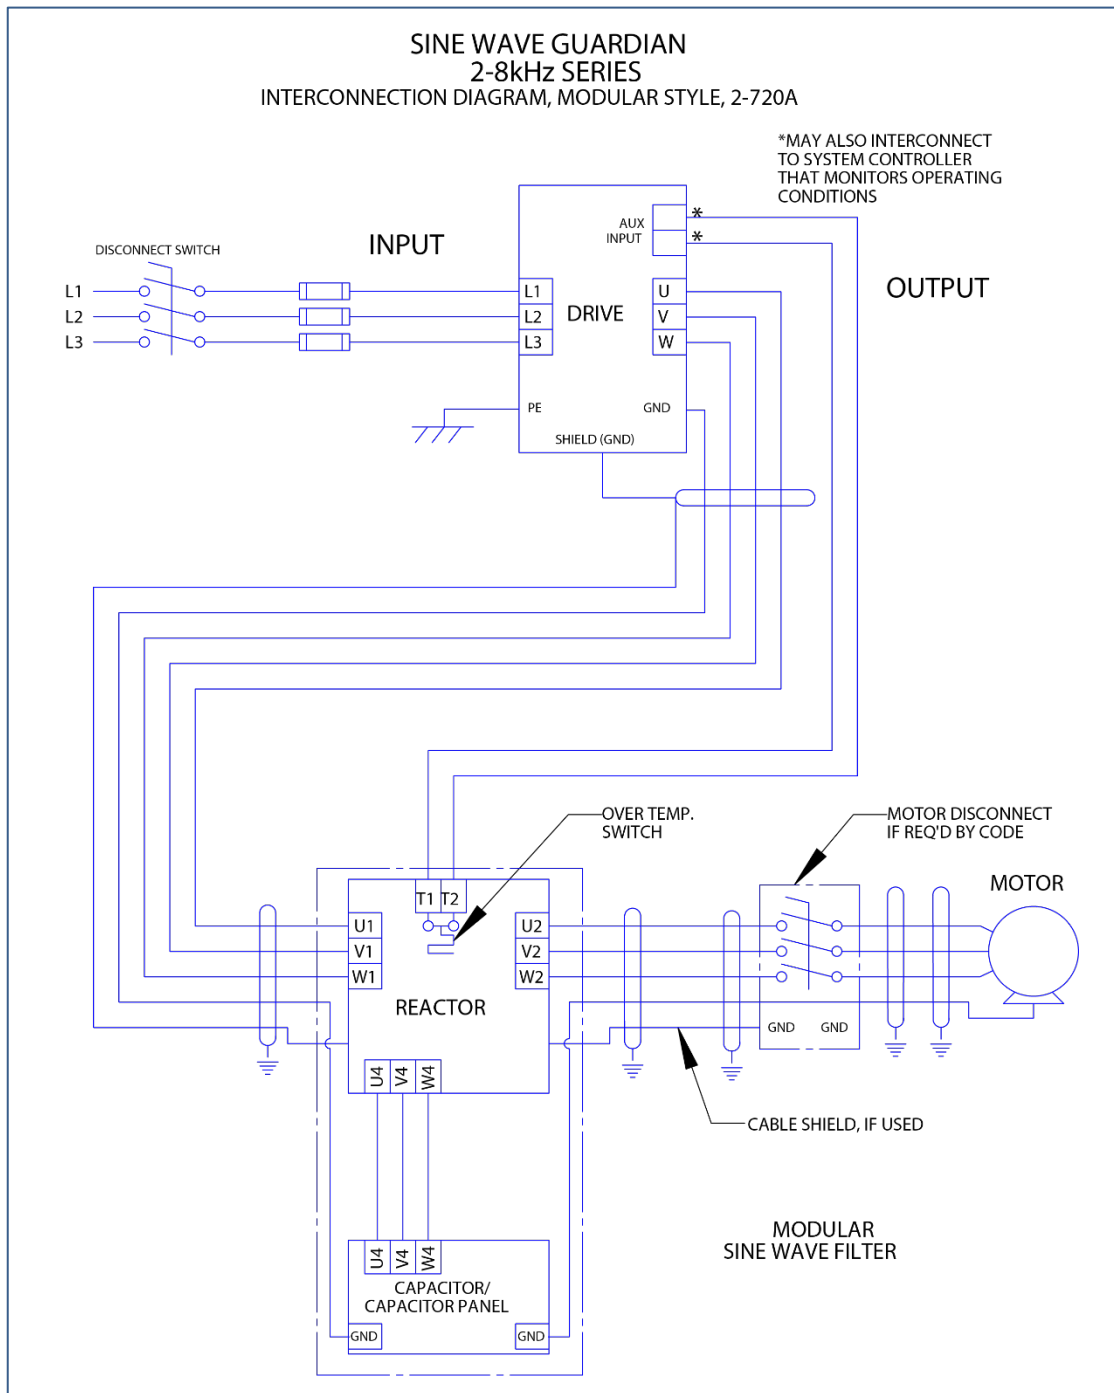

Figure 3-2: Modular Interconnection
- For panel mounted filter applications, interconnection between the filter, its power source, the cap-panels, and the drive is shown in Figure 3-2 (p12).